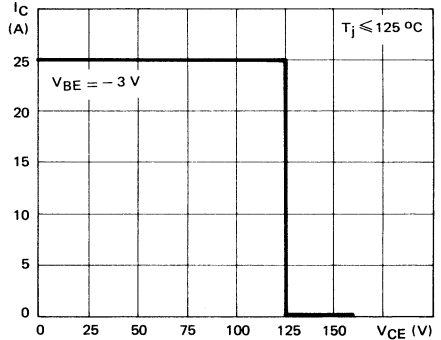

FIGURE 2 : Reverse biased safe operating area ( RBSOA )
**SWITCHING TIMES TEST CIRCUITS (and oscillograms)** (fig. 2)